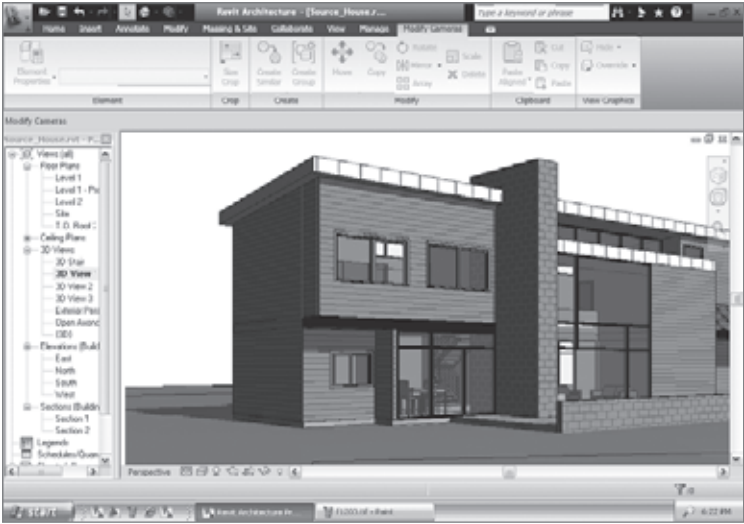

Figure 12.6
**Visible Portion of Current Window** This option prints only what you see in the frame of the open window framed for the sheet size you've selected. Figure 12.5 shows a Revit screen (what you see), and Figure 12.6 shows what will print if you select Visible Portion of Current Window.